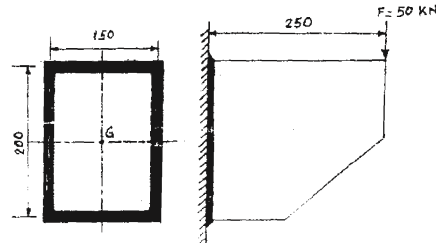

Fig.2
- b) A rectangular bar of cross - section  $200 \text{ mm} \times 150 \text{ mm}$  is fillet welded to a plate as shown in fig.2. Determine the size of welded joint if the permissible shear stress of the weld is  $79 \text{ MPa}$ . [12]